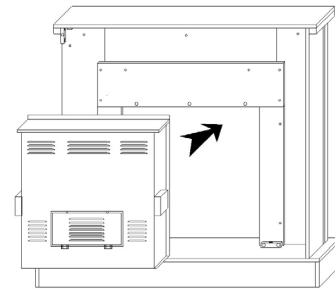

Fig. 10
Step 1: Place the INSERT in back of the mantel on the floor. Carefully lift the INSERT into the mantel until the top stopper is against to MANTEL. See Fig. 10